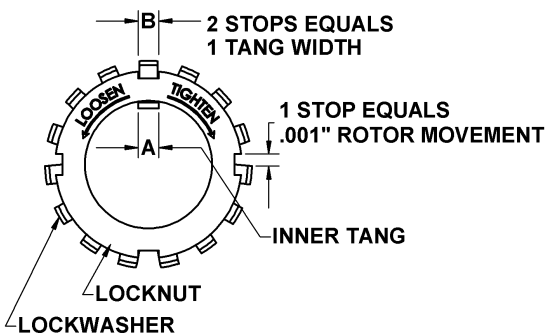

Figure 8— Locknut Assembly
7. Align the notch in stationary seat (153B) with the anti-rotation pin in the cylinder (12) and insert it into the seal recess with the polished face inward to mate with the rotating face.
8. Hand pack the ball bearing (24) with grease. Refer to "Lubrication" in the Pump Maintenance Section for the recommended grease.
9. Install the bearing (24) into the cylinder recess. The bearing balls should face outward, with the grease shield inward. Ensure that the bearing (24) is fully and squarely seated against the mechanical seal (153).
10. Keep the bearing (24) from falling out of the cylinder (12) by securing with one of the bearing cover capscrews (28) and a washer that will catch the outer ring of the bearing when tightened.
11. Turn the pump cylinder (12) over with the INTAKE port and relief valve to the **right**.
14. Insert the shaft into the cylinder (12). Carefully slide the shaft through the installed mechanical seal (153) and bearing. Align the notch in the rotor with the drive tang on the seal jacket of the mechanical seal. Rotate the shaft to ensure the drive tangs of the mechanical seal are engaged in the notches in the rotor.
15. Install lockwasher (24B) on the shaft protruding through the bearing in the cylinder with the tangs outward. Ensure the inner tang "A" of the lockwasher is engaged in the slot in shaft threads. Bend it slightly, if necessary. (See Figure 8.)
29. With the tell-tale hole towards the bottom of the pump, carefully install the head assembly (20) over the shaft and against the cylinder (12). Use care not to damage the mechanical seal components. Align the drive tangs of the mechanical seal with the notches in the rotor.
30. Rotate the head (20) to engage the drive tangs of the seal jacket with the slots in the rotor.
31. Install and finger tighten the head capscrews (21). The head capscrews will be fully tightened after the second locknut is installed.
32. Install lockwasher (24B) on the shaft protruding through the bearing in the head with the tangs outward. Ensure the inner tang "A" of the lockwasher is engaged in the slot in shaft threads. Bend it slightly, if necessary. (See Figure 8.)
43. Tighten the opposite locknut (24A) by hand until it is snug against the bearing (24). Then, using a spanner wrench, tighten the nut the width of one lockwasher tang "B". Tighten just past the desired tang, then back off the nut to align the tang with the locknut slot. Secure the nut by bending the aligned lockwasher tang into the slot in the locknut. The pump should continue to turn freely when rotated by hand.
It is important that the bearing locknuts (24A) and lockwashers (24B) be installed and adjusted properly. Overtightening locknuts can cause bearing failure or a broken lockwasher tang. Loose locknuts will allow the rotor to shift against the discs (71), causing wear. See Figure 8.